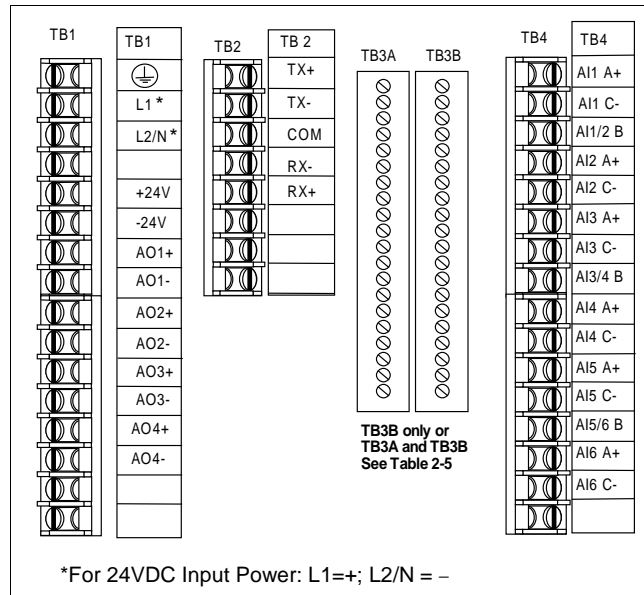
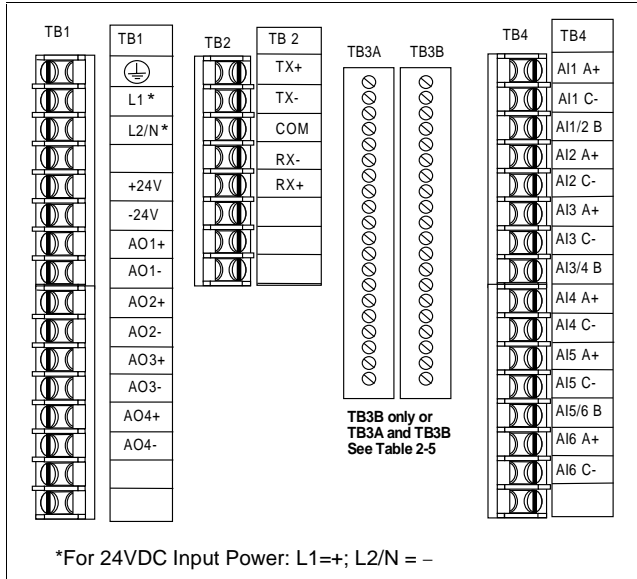
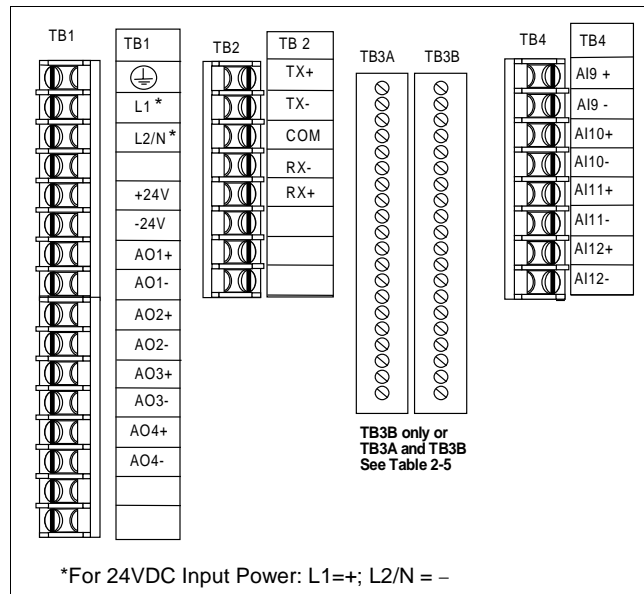

Figure 2-3 Terminal Connections (TB3)
Figure 2-4 Terminal Connections (TB3A & TB3B)
Figure 2-5 Terminal Connections (TB3A & TB3B)
Your instrument has the terminals shown in either Figure 2-3, Figure 2-4 or Figure 2-5.
Make all connections at the terminals outside the case as shown in Figure 2-3 through Figure 2-5 and Table 2-4 through Table 2-6. Do not run low level signal leads close to or parallel with line voltage leads or other power leads, in order to avoid electrical interference with signals.
See Table 1-1 Specifications for acceptable voltage and current signal inputs. Connect current and voltage inputs to the appropriately labeled terminals as in Figure 2-5.
2. When required, current shunts are mounted on these terminals, see Figure 2-5. Use Part No. 311285 for 4-20 mA input conversion to 1-5 V.